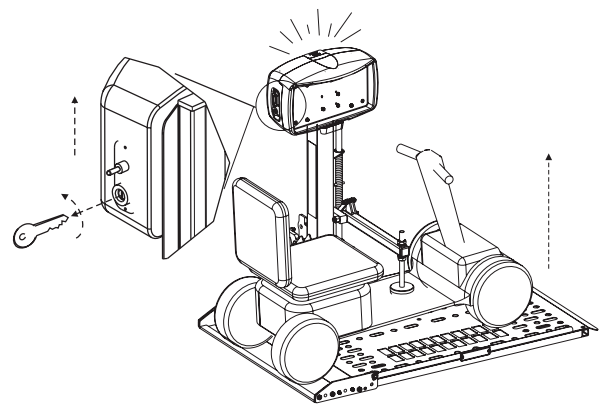

Figure 3-5
3. Remove the key. **See Figure 3-5.**